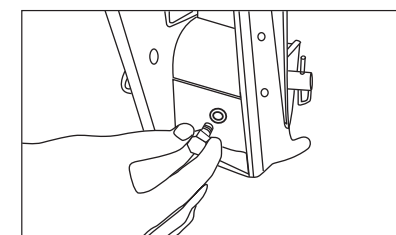

Fig 7
2. Secure with 5/8" bolt to hold in place (Fig 7).